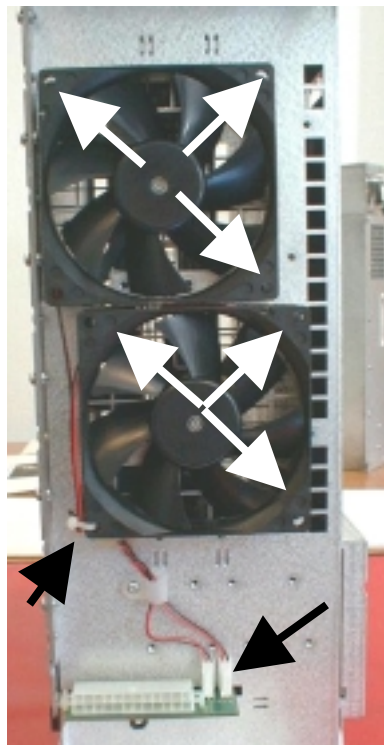

Fig. 6. 1-19. Connectors, strap, and screws for the two fans
6. Unscrew the three screws (M3×10) on each fan and remove the fans, see Fig. 6. 1-19.